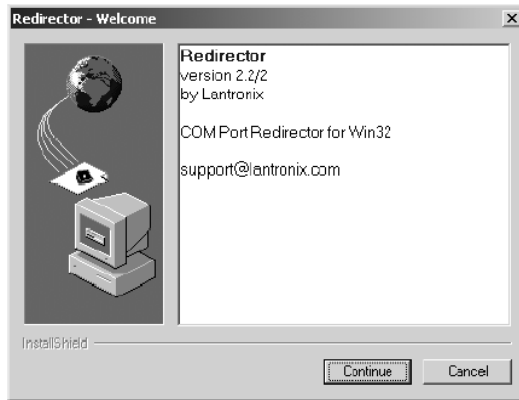

Figure 20: Com Port Redirector Welcome Screen
- Either step displays the Redirector - Welcome screen in Figure 20